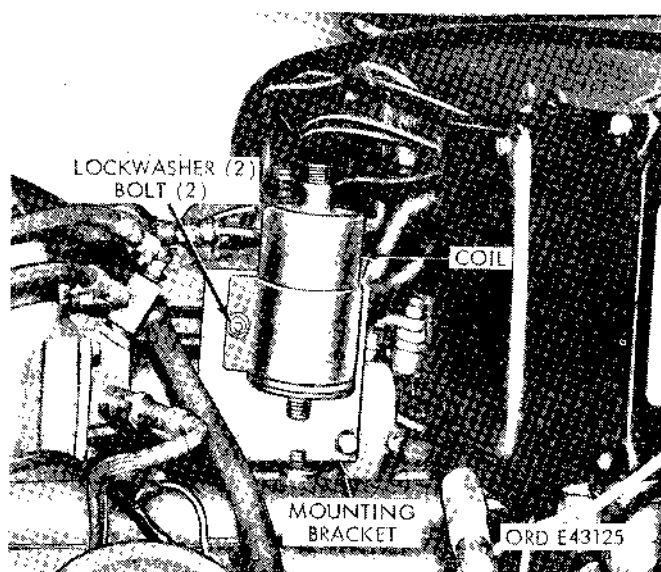

Figure 2-109. Removing coil from mounting plate.
(2) Remove the two bolts and lockwashers securing the coil unit to the mounting plate (fig. 2-109). Remove coil.
(1) Secure the coil to the mounting plate with two lockwashers and bolts (fig. 2-109).